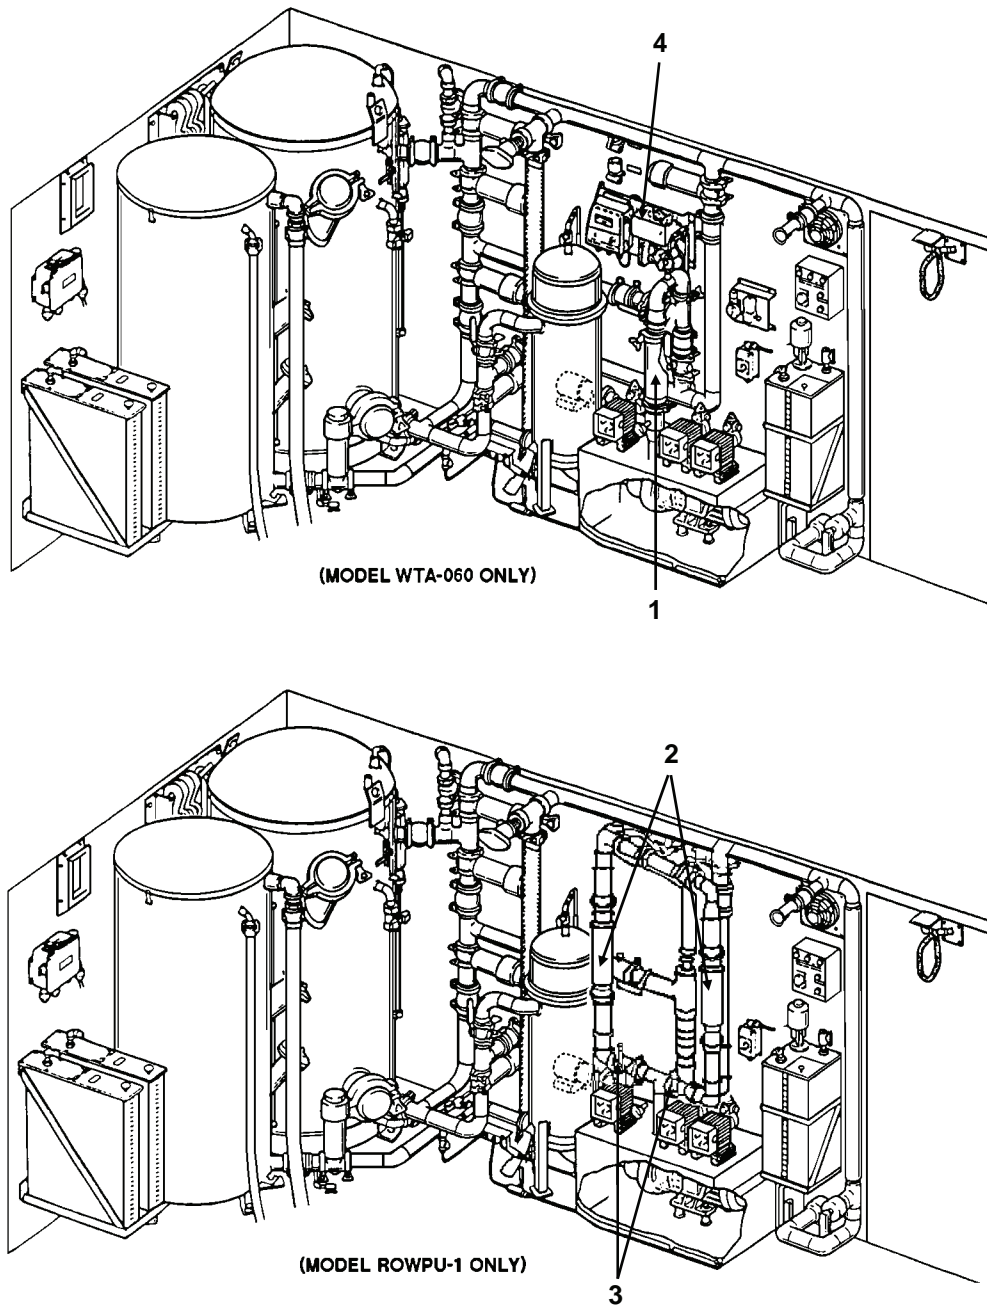

Figure 9. Raw Water Strainer System
Raw Water Strainer System (Figure 9). Strainer system used on WTA-060 model uses a single strainer (1) in the piping system in order to strain raw water entering ROWPU. ROWPU-1 model, however, is equipped with a dual strainer system (2), which allows ROWPU system to remain in operation while either strainer is being cleaned. One strainer is kept in operation at all times through two manual valves (3).